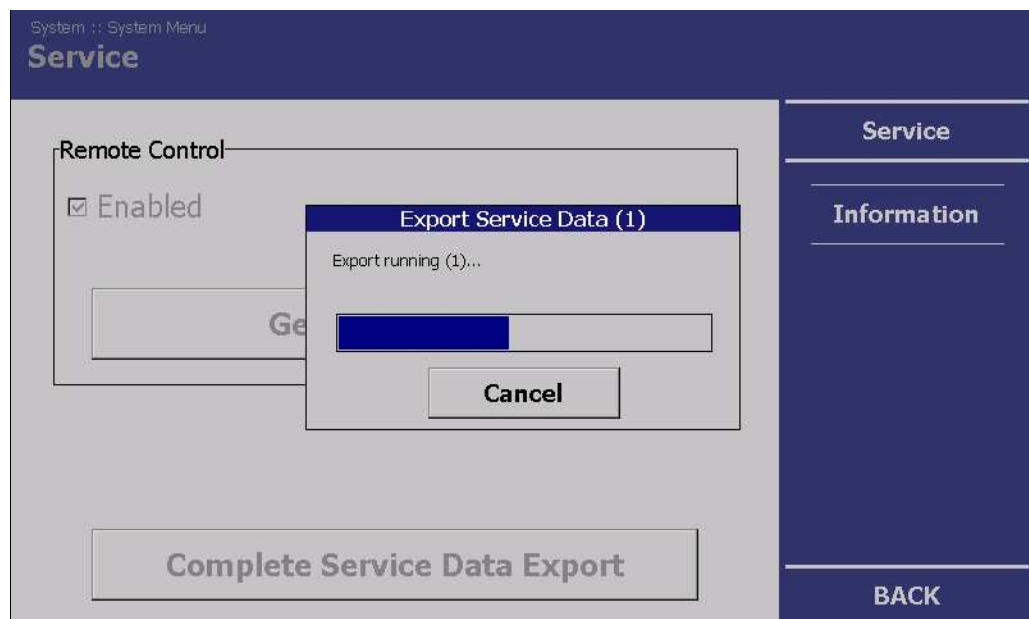

Fig. 41 System Menu, Service - Export of the service data
- Before the update, carry out a back-up of the measurement channel settings (chapt. 6.4.2, Fig. 41) and then import the backed-up settings after a successful software update.